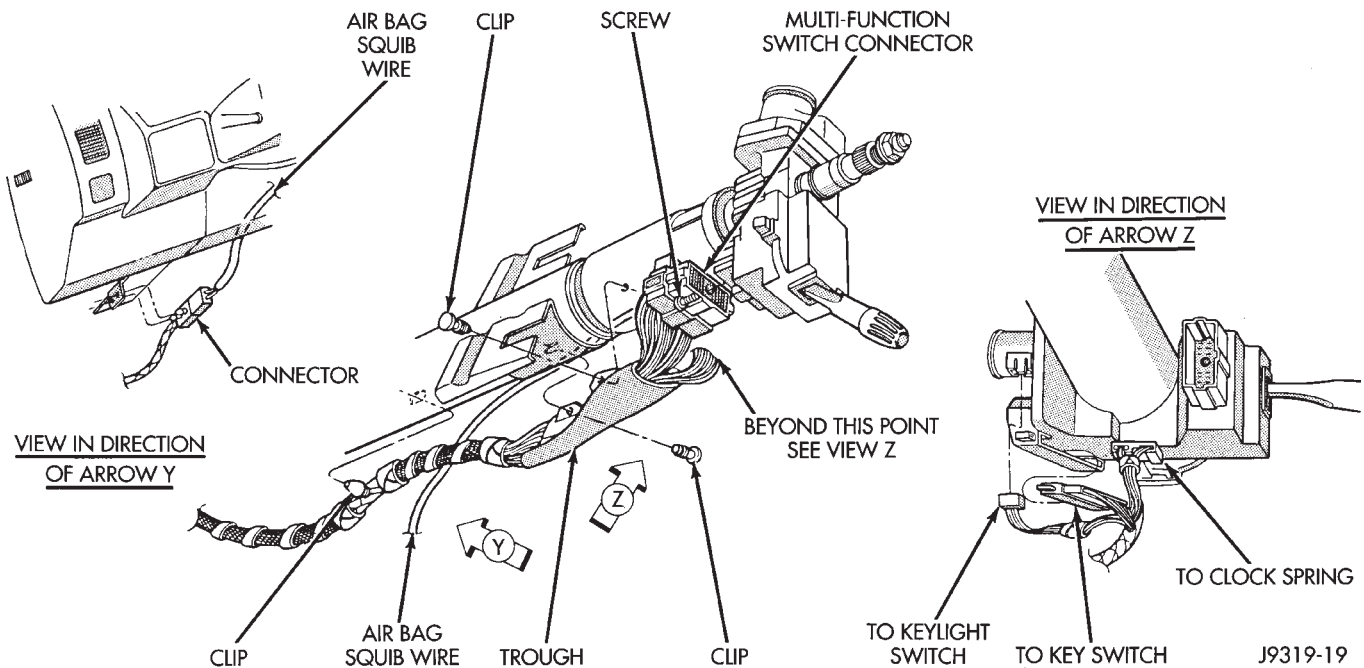

Fig. 6 Steering Column Wiring Harness
- (8) Remove the upper and lower lock housing shrouds.
- (9) Loosen the column mounting nut/washer assemblies to allow the column to drop.
- (10) Remove the Interlock cable from the steering column. Refer to Group 21 Transmission and Transfer Case.
- (11) Remove multi-function switch connector screw and remove connector.
- (12) Remove the wiring harness from the remaining switches and the steering column (Fig. 6).
- (13) Remove the ignition switch.
- (14) Remove the clock spring, and switches refer to Group 8 Electrical for service procedures.
- (15) Remove the toe plate to dash panel nuts.